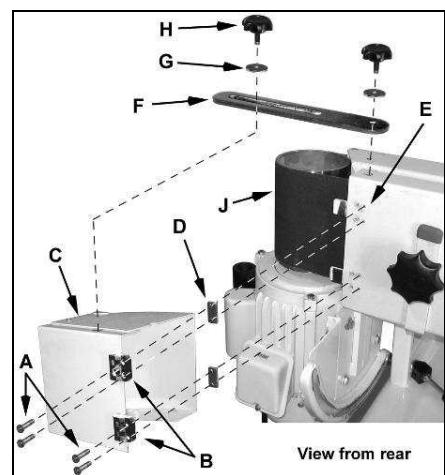

Fig 5
Attach the drum guard (C, Fig 5) with four M4x20 screws (A).